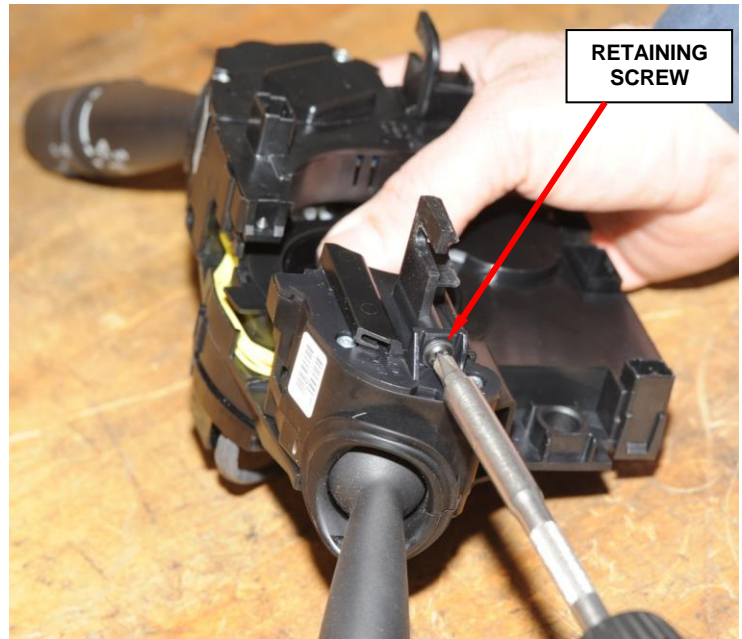

Figure 5 – Right Multi-Function Switch Retaining Screw
13. Remove and save the right multi-function switch retaining screws (Figure 5).
18. Install the right multi-function switch retaining screws (Figure 5). Tighten the screws to 10 in. lbs. (1 N·m).